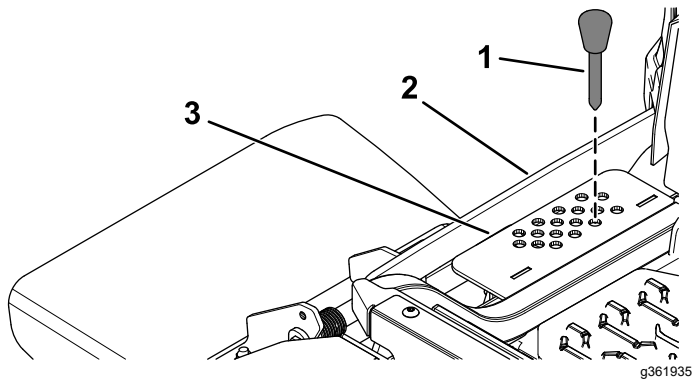

Figure 31
2. Select a hole in the height-of-cut bracket corresponding to the height of cut desired, and insert the pin (Figure 31).
3. Push down on the deck-lift switch until the height-of-cut linkage slightly contacts the height-of-cut pin (Figure 31).